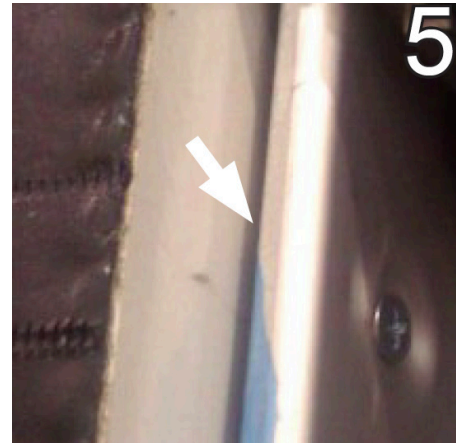

Fig. 73 Secure frame to partition
5. Tightly secure the frame to the partition using flathead self-tapping screws (#6), included with the ship loose parts. There should be no gap between the frame and foamed partition when done (Fig. 73).